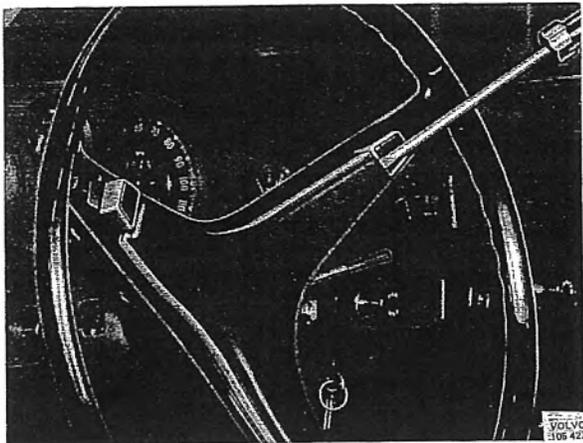

Fig. 6-36. Removing impact pad
1. Carefully lever loose the impact pad, see Fig. 6-36.